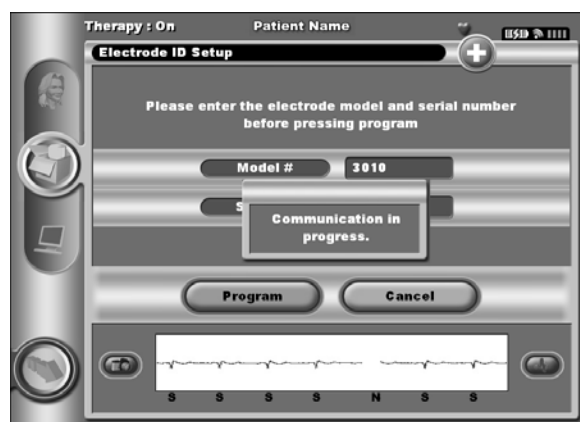

Figure 23: Confirmation screen showing communication in progress
6. Select the Program button to save the information. A confirmation screen will appear during communication with the SQ-RX device (Figure 23). Select Cancel to cancel information storage and return to the Automatic Setup screen.